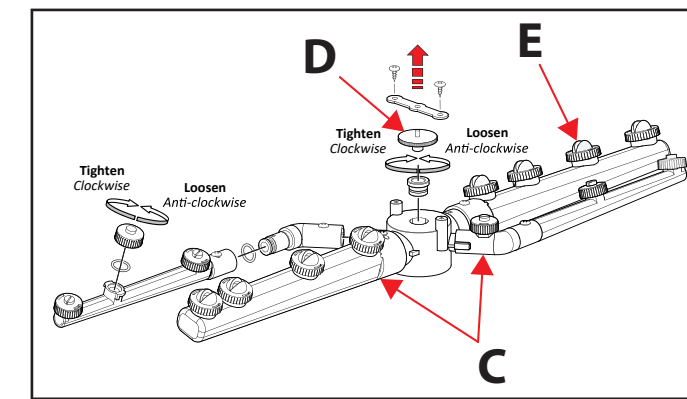

Fig.2
1. Remove the fixing screw (D) Fig. 2 to remove the wash/rinse arms. Check that the nozzles (E) Fig. 2 are not blocked with food waste. The nozzles can be removed for cleaning if required.
2. Reinstall the wash/rinse arms using fixing screw (D) Fig. 2.